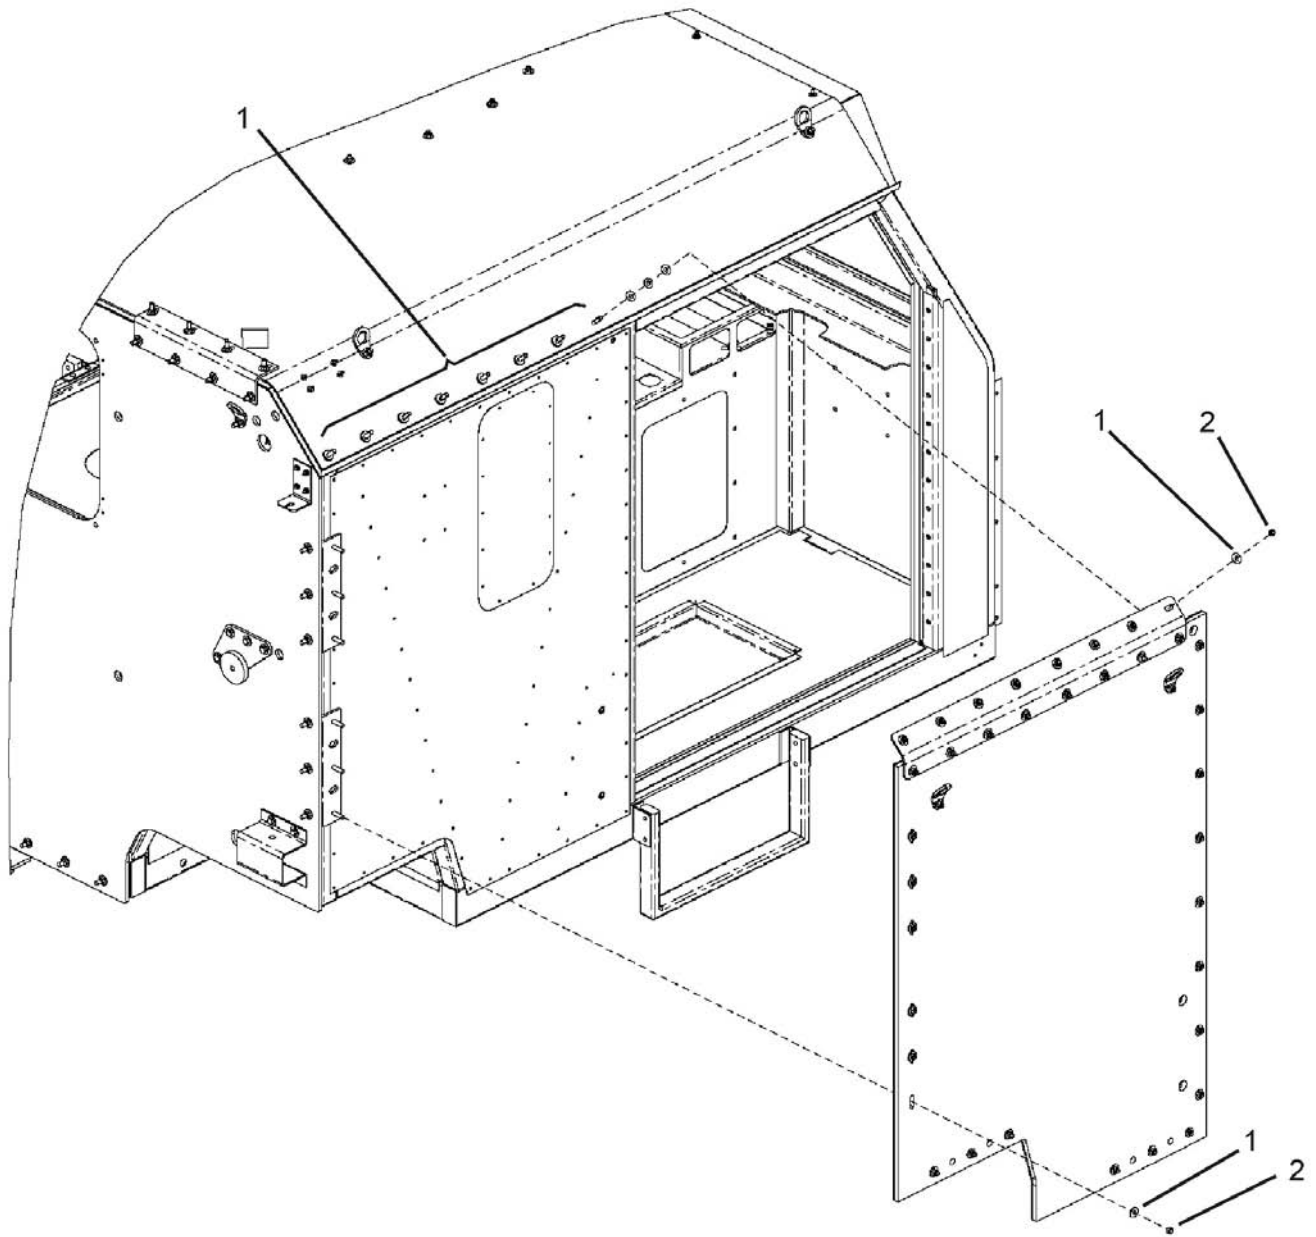

Figure 3-24. Right Aft Side Panel Assembly Installation.
3. Install right aft side panel assembly as follows (see Figure 3-24):